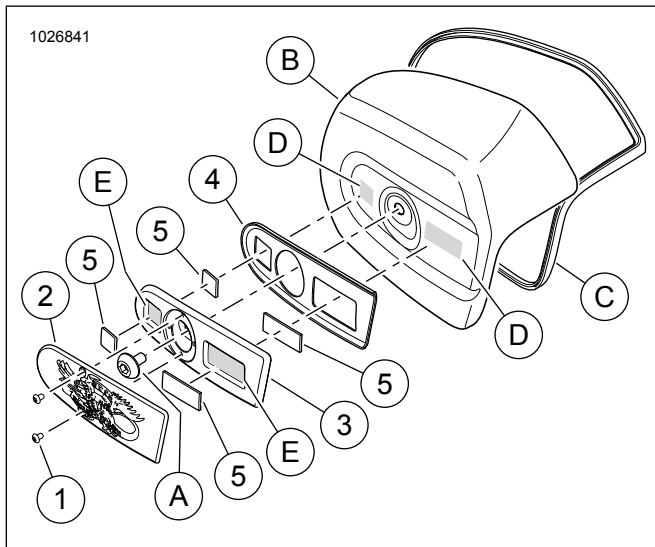
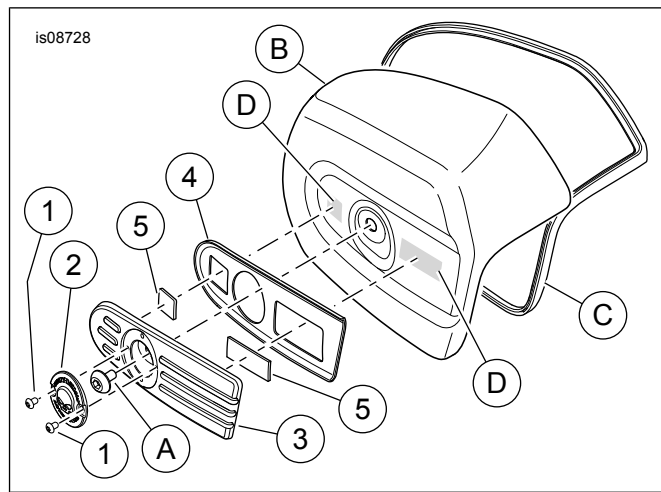
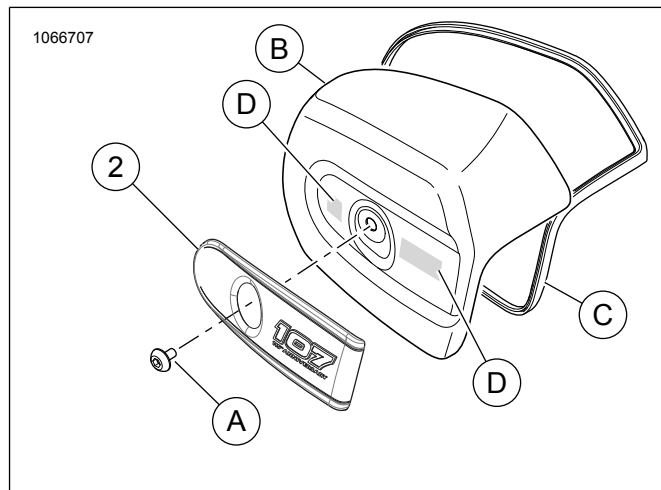

Figure 1. Service Parts, Live to Ride Air Cleaner Trim Kit
Figure 2. Service Parts, Air Cleaner Trim Kits With Gaskets
Figure 3. Service Parts, Air Cleaner Trim Kits Without Gaskets
See Figure 1, Figure 2, Figure 3 and Table 1.
- See Figure 1. Remove the original equipment (OE) insert from the air cleaner cover (B).
- Push a thin-blade putty knife between trim (3) and air cleaner cover while pulling trim away from cover.
See Figure 3. Insert without gasket the OE screw (A) does not have to be removed.
- See Figure 1. Thoroughly clean area (D) with a 50:50 mix of rubbing alcohol and water. Allow to dry completely.
- Align the gasket (4) to the back side of the trim plate (3).
- Leave Dual Lock fastener (5) mating halves assembled to the trim plate. Remove tape protecting adhesive on exposed face of each fastener.
- See Figure 2. Thoroughly clean area (D) with a 50:50 mix of rubbing alcohol and water. Allow to dry completely.
- Leave (if applicable) Dual Lock fastener (5) halves assembled to the trim plate. Remove tape protecting adhesive on the exposed face of each fastener.
1. See Figure 3. Thoroughly clean area (D) with a 50:50 mix of rubbing alcohol and water. Allow to dry completely.
2. Remove tape protecting the adhesive pads on the inside of the decorative insert (2).
3. Visually align decorative insert with cover (B). Press firmly in fastener area (D) to secure. Hold for 30 seconds.